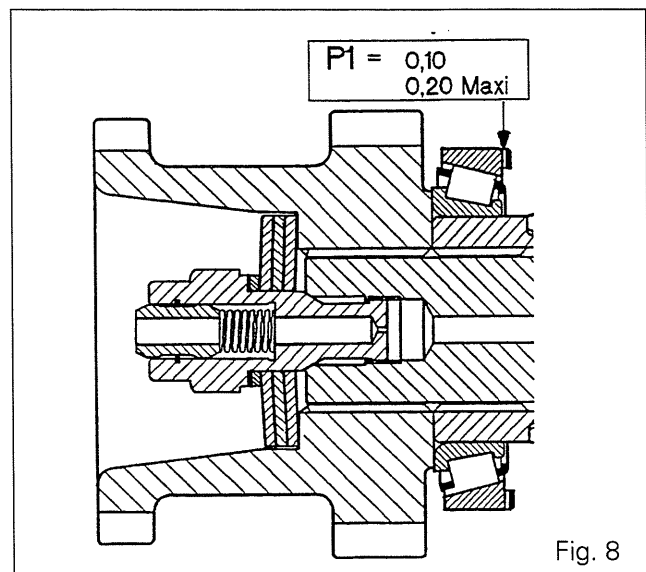

Fig. 8
39. Perform the shimming in order to obtain a preload (Fig. 8) :  $P1 = 0.10$  a  $0.20$  max.